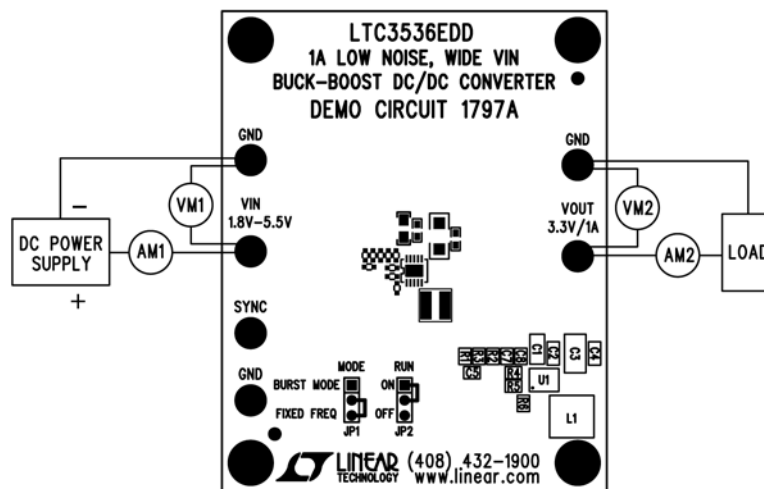

Figure 1. Proper Measurement Equipment Setup
Demonstration circuit 1797A is easy to set up to evaluate the performance of the LTC3536. For proper measurement equipment configuration, set up the circuit according to the diagram in Figure 1. Before proceeding to test, insert shunts into JP1 fixed frequency and JP2 off positions, which connects the RUN pin to ground (GND), and thus, shutdown the circuit.
1. With the DC1797 set up according to the proper measurement and equipment in Figure 1, apply 5V at V_{IN} . Measure V_{OUT} ; it should read 0V. If desired, one can measure the shutdown supply current at this point. The supply current will be approximately $3\mu\text{A}$, or less, in shutdown.